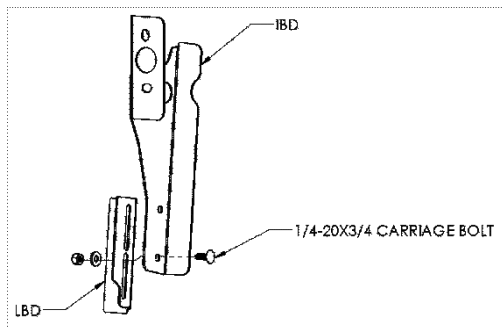

FIGURE 3 – Inner bracket, driver side shown
- Attach the Lower Brackets to the Inner Brackets with (1) carriage bolt, flat washer, and hex lock nut in the **bottom** hole only. (FIGURE 3).